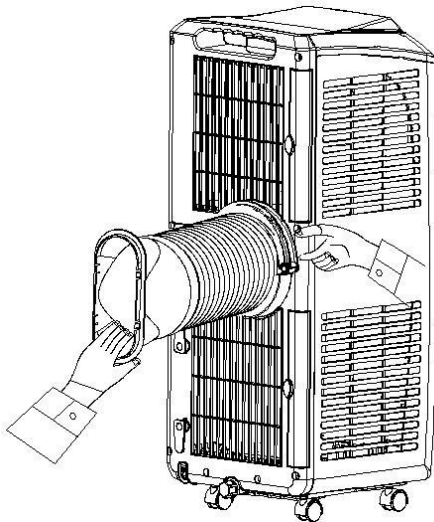

Figure 3
- 2). Hold the end of the C clamp buckle with the left hand and the heat exhaust hose end connector (#28) with the right hand, put one end of the heat exhaust hose that is pulled apart onto the snap of the lower air duct bottom, press the C clamp buckle with the left hand so that the C clamp clips locks in place as shown in Figure 3.